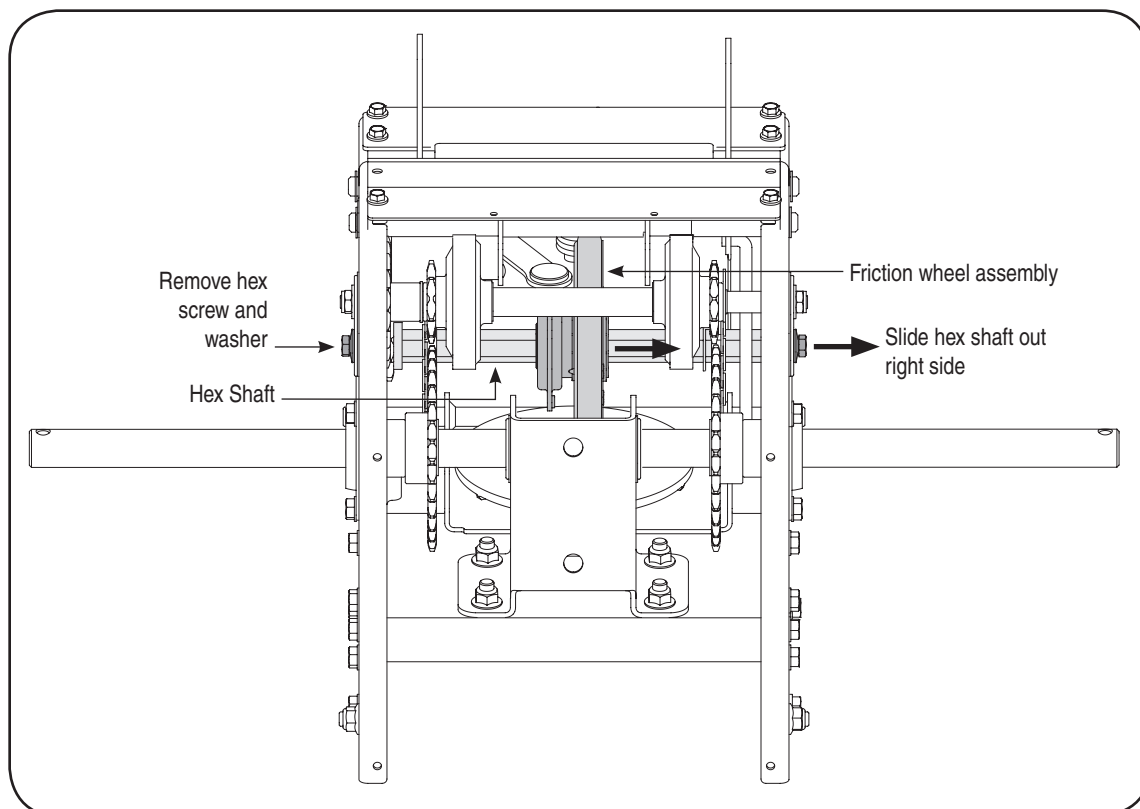

Figure 6-14
- Using a 3/4" wrench, hold the hex shaft and remove the hex screw and cupped washer and bearing from left side of the frame. Refer to Figure 6-14.